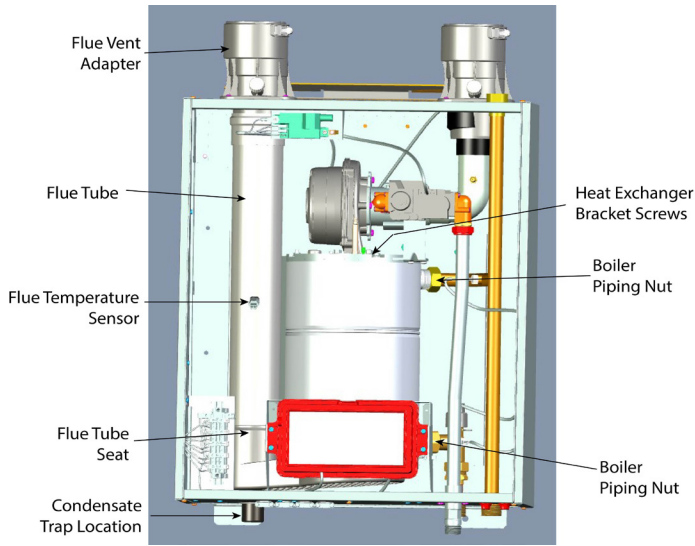
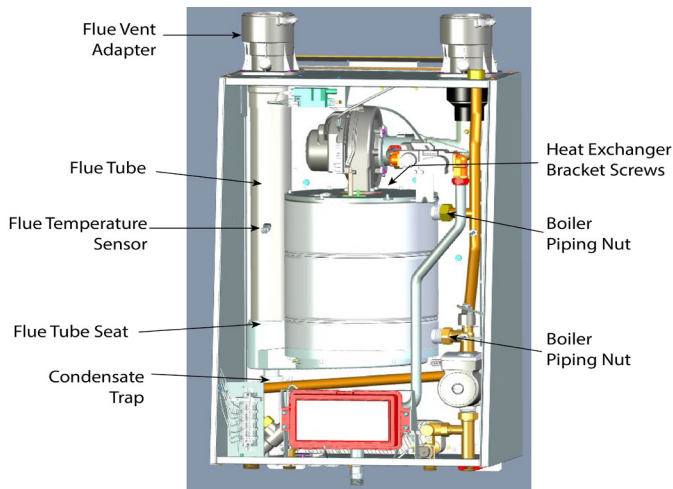

Fig. 5: Exalt 110
Fig. 9: Exalt 199 Combi
1. Loosen the two nuts securing the boiler piping to the heat exchanger. See Fig. 5 - Fig. 9.